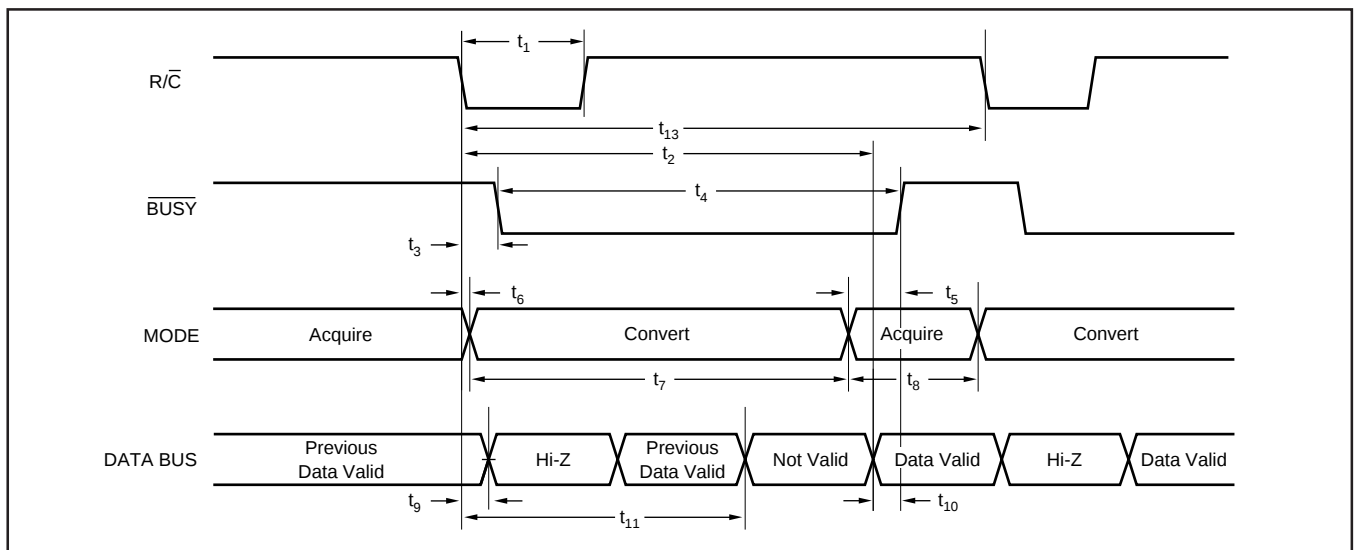

FIGURE 3. Conversion Timing with Outputs Enabled after Conversion ($\overline{CS}$ Tied LOW).
Table II for a summary of $\overline{CS}$, $\overline{R/\overline{C}}$, and $\overline{BUSY}$ states and Figures 3 through 5 for timing diagrams.
NOTE: (1) See Figures 3 and 4 for constraints on data valid from conversion "n-1".
After conversion 'n' is completed and the output registers have been updated, $\overline{BUSY}$ (pin 26) will go HIGH. Valid data from conversion 'n' will be available on D15-D0 (pins 6-13 and 15-22). $\overline{BUSY}$ going HIGH can be used to latch the data. Refer to Table IV and Figures 3 to 5 for timing specifications.
After conversion 'n' has been initiated, valid data from conversion 'n - 1' can be read and will be valid up to $7\mu s$ after the start of conversion 'n'. Do not attempt to read data from $7\mu s$ after the start of conversion 'n' until $\overline{BUSY}$ (pin 26) goes HIGH; this may result in reading invalid data. Refer to Table IV and Figures 3 to 5 for timing specifications.
The number of control lines can be reduced by tying $\overline{CS}$ LOW while using $\overline{R/\overline{C}}$ to initiate conversions and activate the output mode of the converter (see Figure 3).